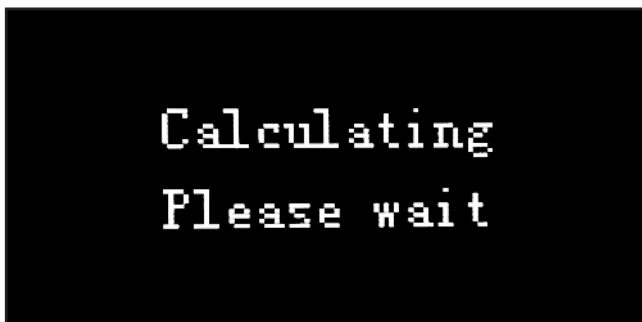

Figure 59. Calculation status screen.
3. Press Enter button. Computer will begin making calculations (see **Figure 59**).